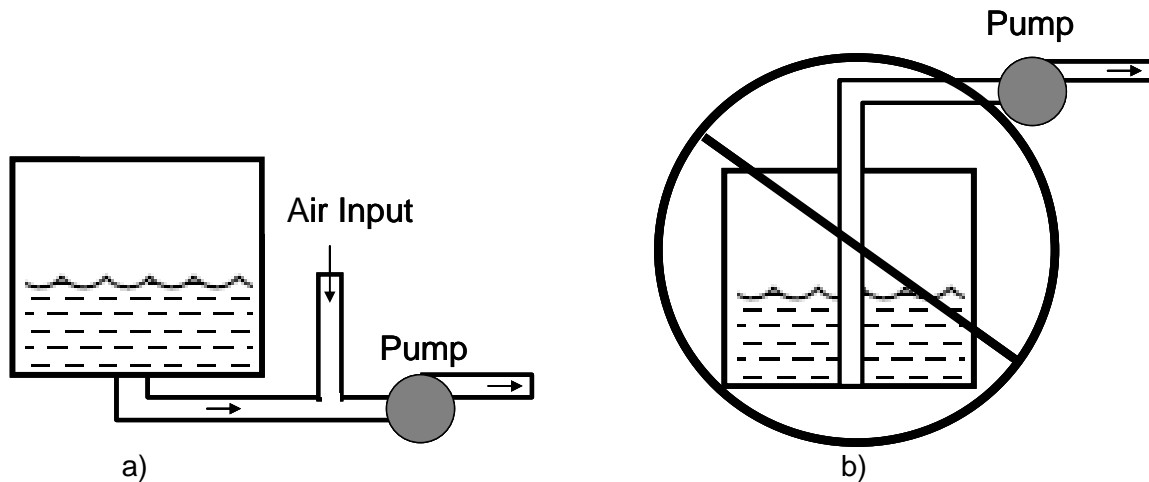

Figure 1
- The pump is installed so that the inlet of the pump must be below the level of the surface of the water being pump (figure 1)